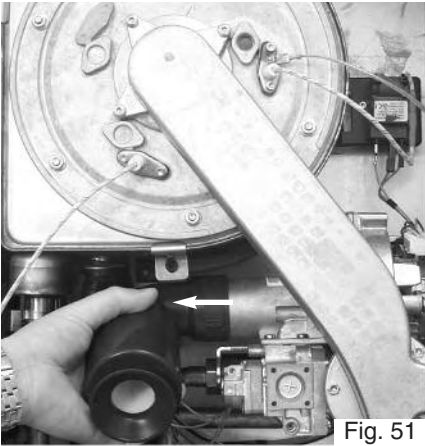

Fig. 51
2. Remove the silencer (Fig. 51);